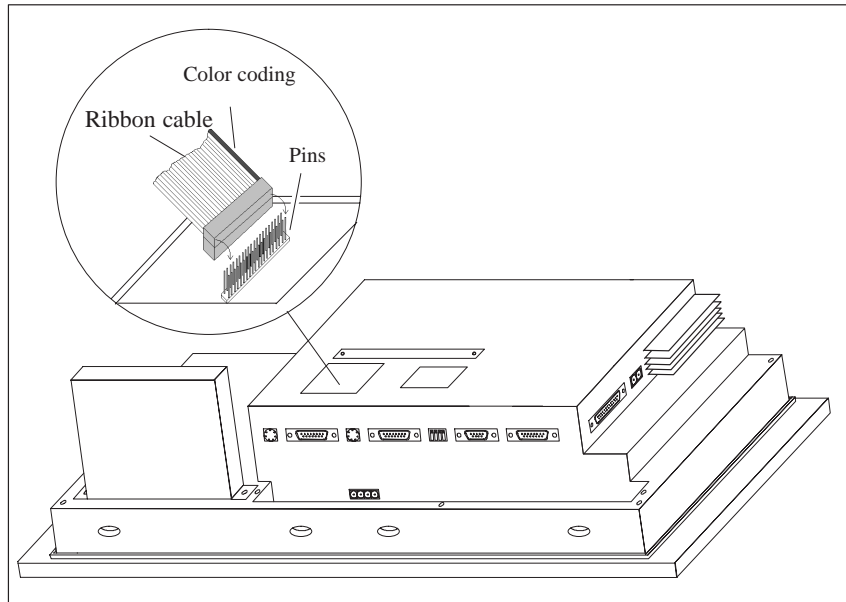

Figure 18-5 Connecting the plug of the direct key module (example OP37)
3. Connect the connector of the DKM ribbon cable to the plug connector of the OP in such a way that the color-coded side of the ribbon cable is facing toward the center of the unit (see Figure 18-5).